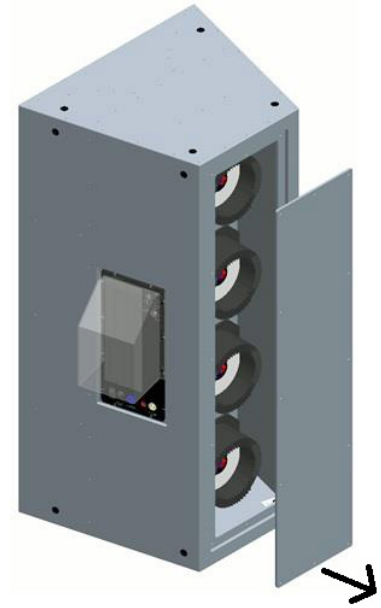

Figure 24: A-2305 Removal
- c. Pull off bad driver (**Figure 24**).